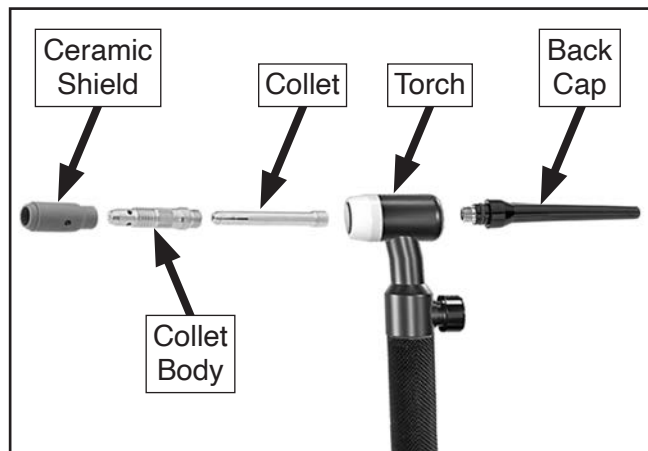

Figure 6. Torch assembly sequence.
3. Thread collet body into front of torch (see **Figure 6**).
4. Thread ceramic shield onto collet body (see **Figure 6**).
5. Insert collet into collet body through back of torch (see **Figure 6**).